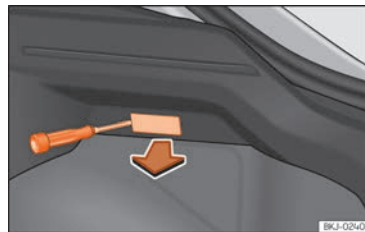

Fig. 177 Boot light.
- Extract the bulb by pressing on its inside edge using the flat side of a screwdriver >>> **Fig. 177**.